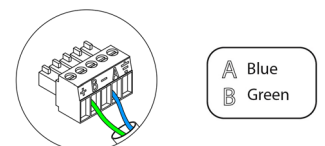

Fig. 52
It has a 5-pin terminal to connect it to the Airzone Connection Bus of the main board ④. Attach the wires with the terminal screws following the color code (Fig. 52).